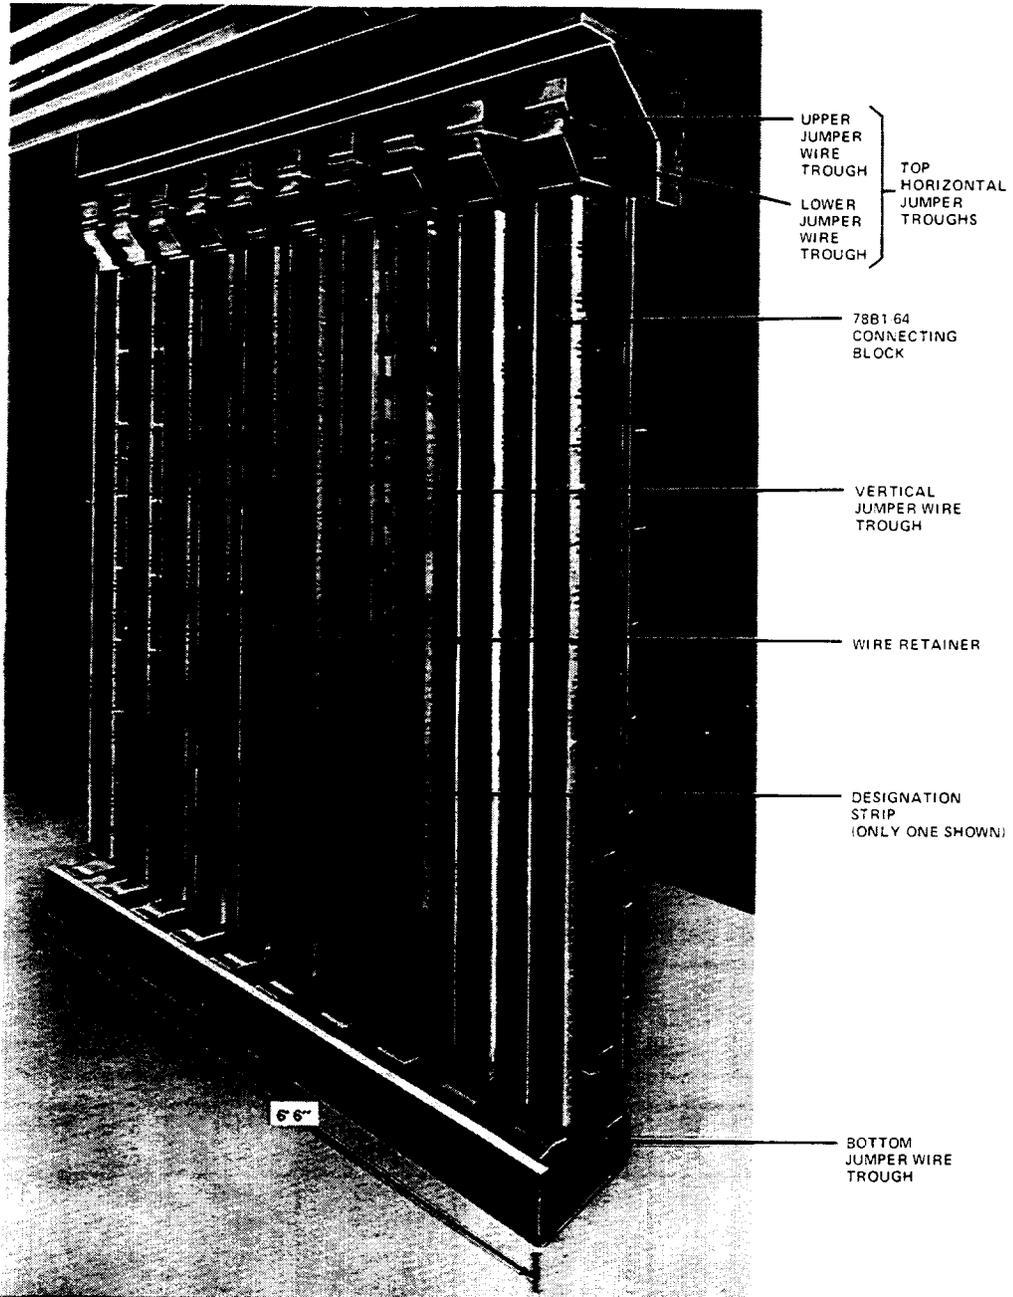

Figure 7—ESS Modular Distributing Frame
3.24 The ESS modular distributing frames (Table F and Figure 7) were designed specifically for ESS switch applications. Frames are single-sided units available in 8-foot high by 6-foot 6-inch wide and 7-foot